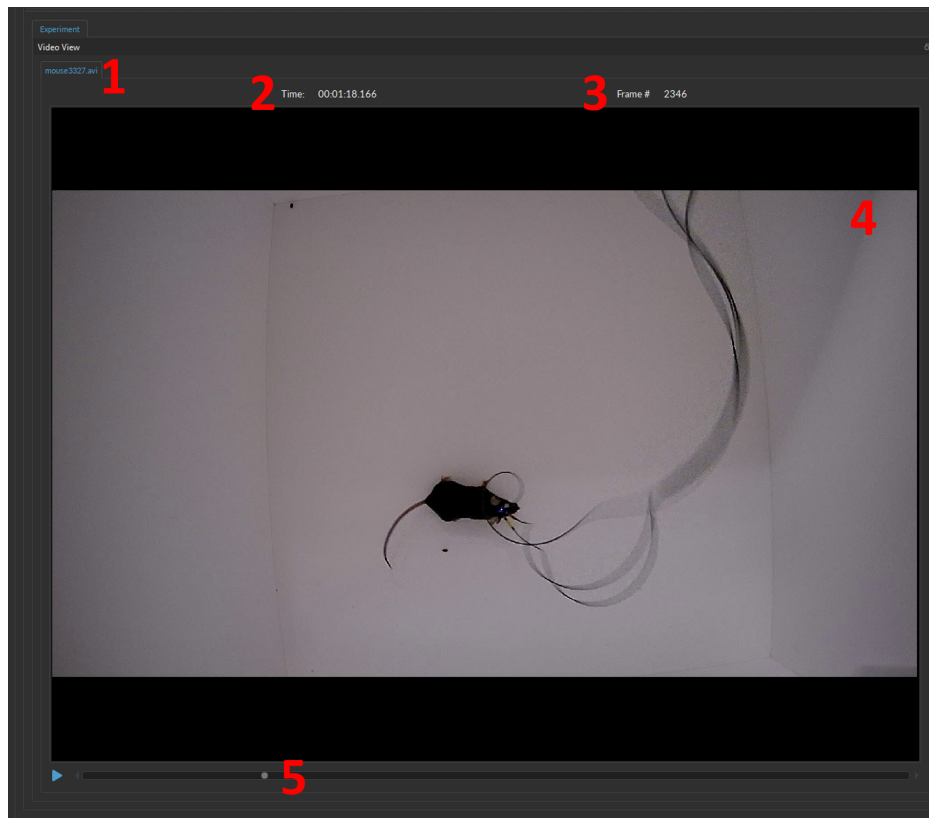

Figure 14.13: Video View
The **Video View** (Fig. 14.13) displays the video feed once a video is loaded into the module. Users can scroll through the video frame-by-frame or play the footage at a set frame rate.
1. The **Video tab** (Fig. 14.13, 1) allows multiple video files to be simultaneously loaded into the module. Each video file will have its own tab, labeled with the filename (e.g. *mouse3322.avi*). Only one video can be viewed at a time. To switch between loaded videos, select the tab of choice.
2. The **Time** (Fig. 14.13, 2) displays the timestamp associated with the current frame (in hh:mm:ss:zzz).
3. The **Frame #** (Fig. 14.13, 3) displays the index of the current frame within the entire video.
4. The **Current frame** (Fig. 14.13, 4) is where the image associated with the **Frame #** of the video is displayed.
5. The **Current Time Bar** (Fig. 14.13, 5) allows users to quickly hop between frames. Use the play button (on the left of the bar) to run the video at a normal frame rate. The **Time** and **Frame #** will be automatically updated when moving the cursor within the **Time Bar**. Note that moving the cursors in the **Video View** will automatically move the cursor in the **Signal View**, facilitating checking the correlation between signal and behavior.